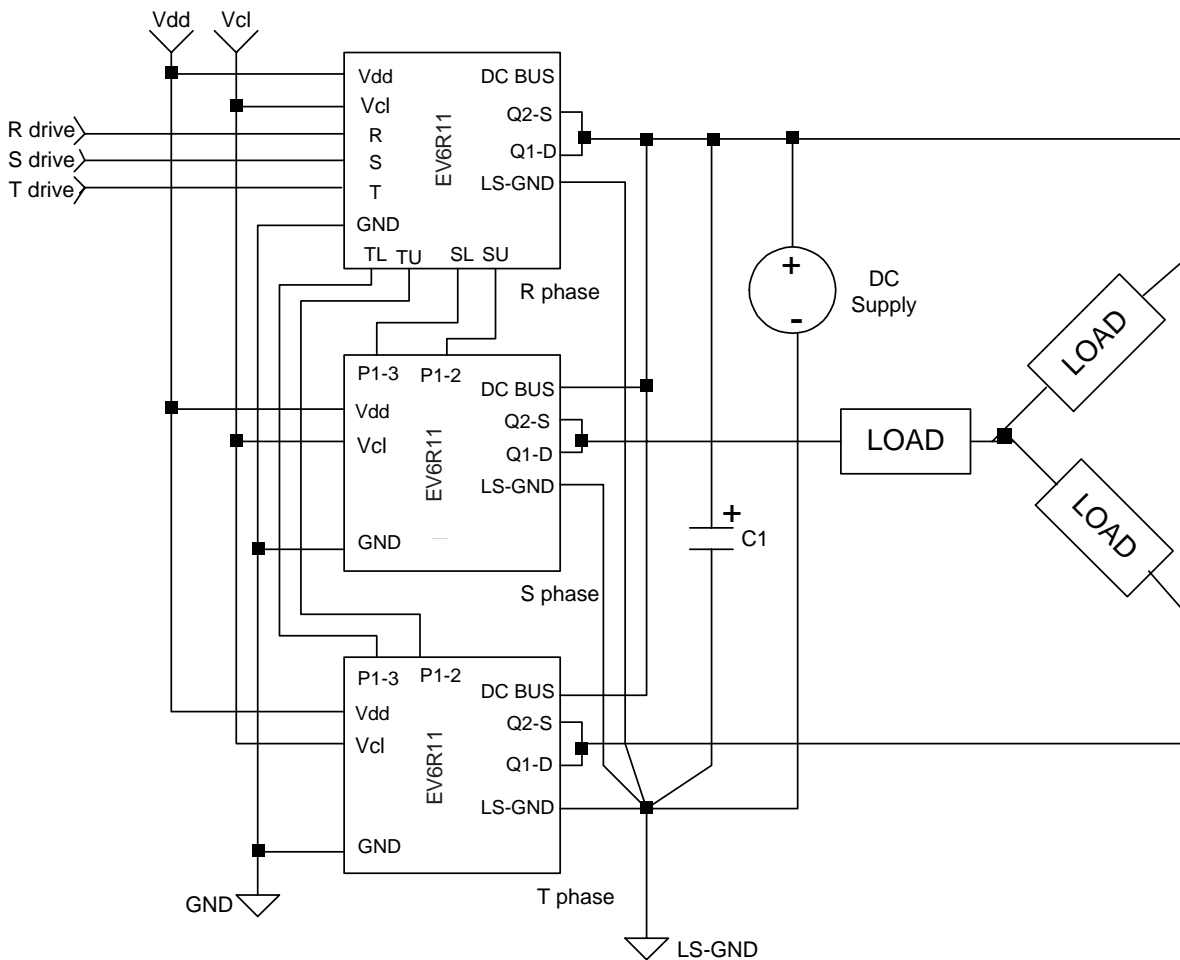

Figure 5: EV6R11 Three Phase Configuration
to form a three phase drive system, such as that shown in Figure 5.
**f)** Figure 5 shows a three phase power system implementation with a load configured in a Y (star). It could also be configured in a DELTA configuration. Please note the grounding scheme. Cut the connection between "ground plane 2" and "ground plane 4" on the components side of the PCB and solder a 10 Ohm resistor between these ground planes. The GND of each board is terminated to a single ground point.